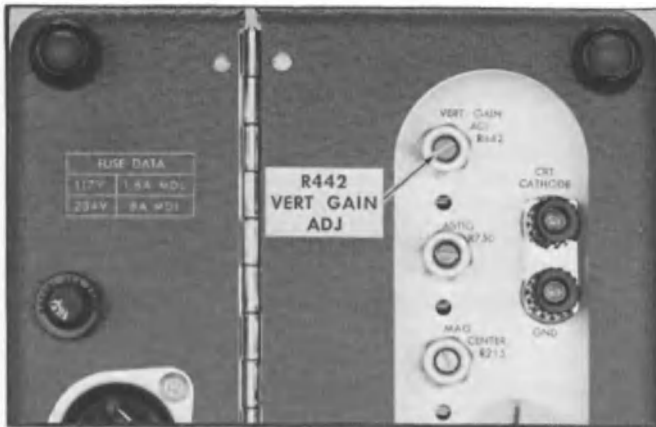

Fig. 5-8. Location of VERT GAIN ADJ (rear panel).
f. ADJUST—VERT GAIN ADJ, R442 (see Fig. 5-8), for exactly five divisions vertical deflection at the center vertical line.